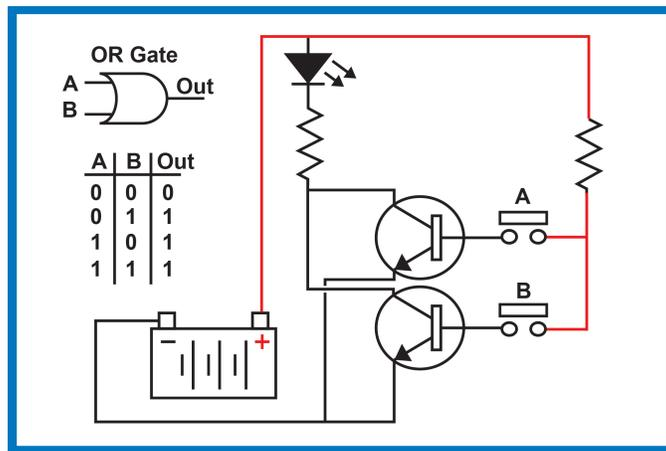

Figure 16
Now let's look at an OR Gate, as illustrated in Figure 16. In this diagram there is a power source in the lower left corner. This will supply current to the circuit so it can operate. The circuit supplies current to the LED only if either transistor A is on, or if transistor B is on, or if both transistor A and transistor B are on. The LED default state is off (0). If transistor switch A is closed then voltage is applied to transistor A's base turning transistor A on (1). When transistor A is turned on (1) the ground circuit is completed. The LED output is now turned on (1). If transistor switch B is closed then voltage is applied to transistor B's base, turning transistor B on (1). When transistor B is turned on (1) the ground circuit is completed. The LED output state is now turned on (1). If both transistor A and transistor B are both turned on A(1) B(1) the ground circuit is completed and the output state is on (1). This shows the function of the OR Gate, where either gate can be closed A(1), B(1), or A(1) and B(1) to get an output that is on (1).